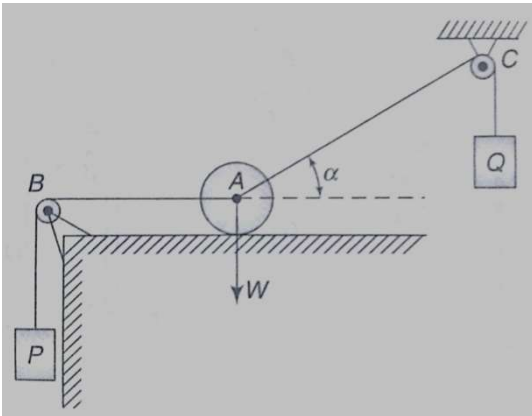

Figure 1.18
25. A ball of weight W rests upon a smooth horizontal plane and has attached to its centre two strings AB and AC which pass over frictionless pulleys at B and C and carry loads P and Q, respectively, as shown in Figure 1.18. If the string AB is horizontal, find the angle α that is string AC makes with horizontal when the ball is in a position of equilibrium. Also find the pressure R between the ball and the plane.